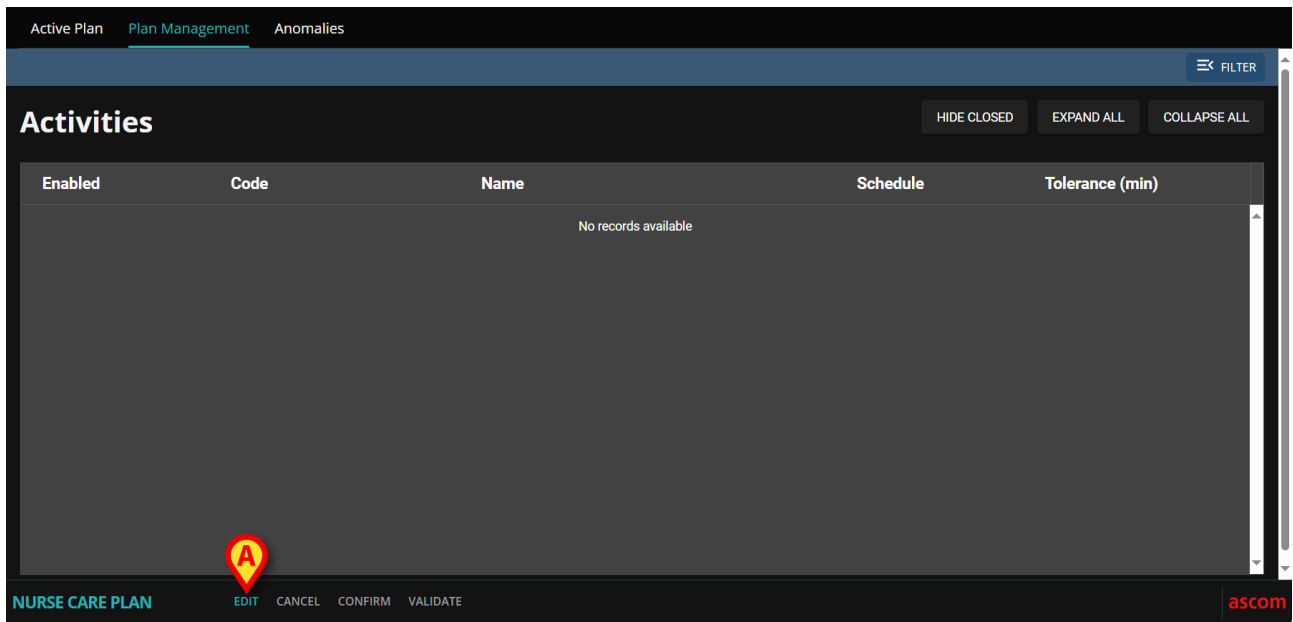

Fig 16
For a new patient, for which no activity is yet specified, it is possible to select a standard plan, i.e. a set of pre-configured problems/activities that correspond to the patient’s clinical profile. See for example Fig 16, where no activity was selected.
- Click the **Edit** button on the command bar (Fig 16 **A**).